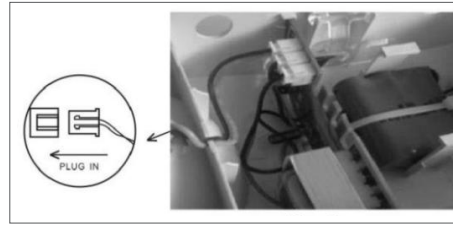

FIGURE 2
- C) Connect battery only after continuous AC power can be provided to the unit. (Figure 2)